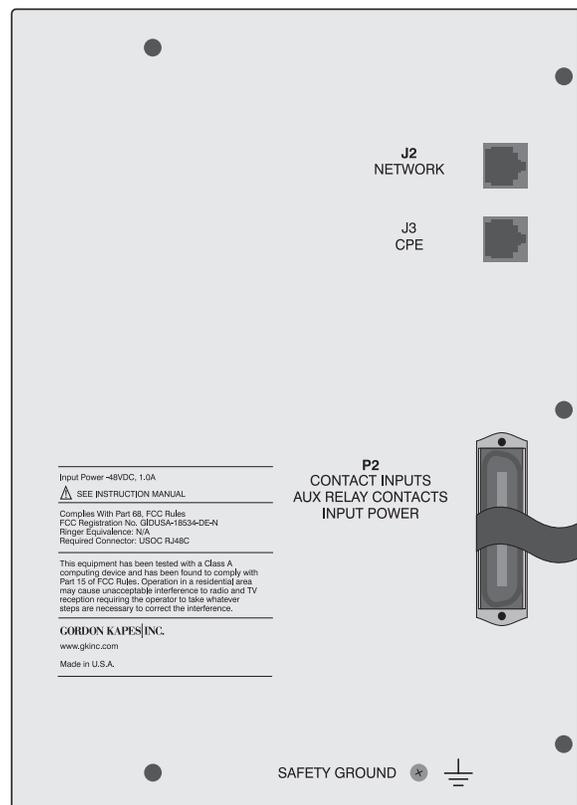

Figure 2-5. System 920i Right Panel
- ❑ Plug P2 is located on the right panel of the System 920i as shown in Figure 2-5.